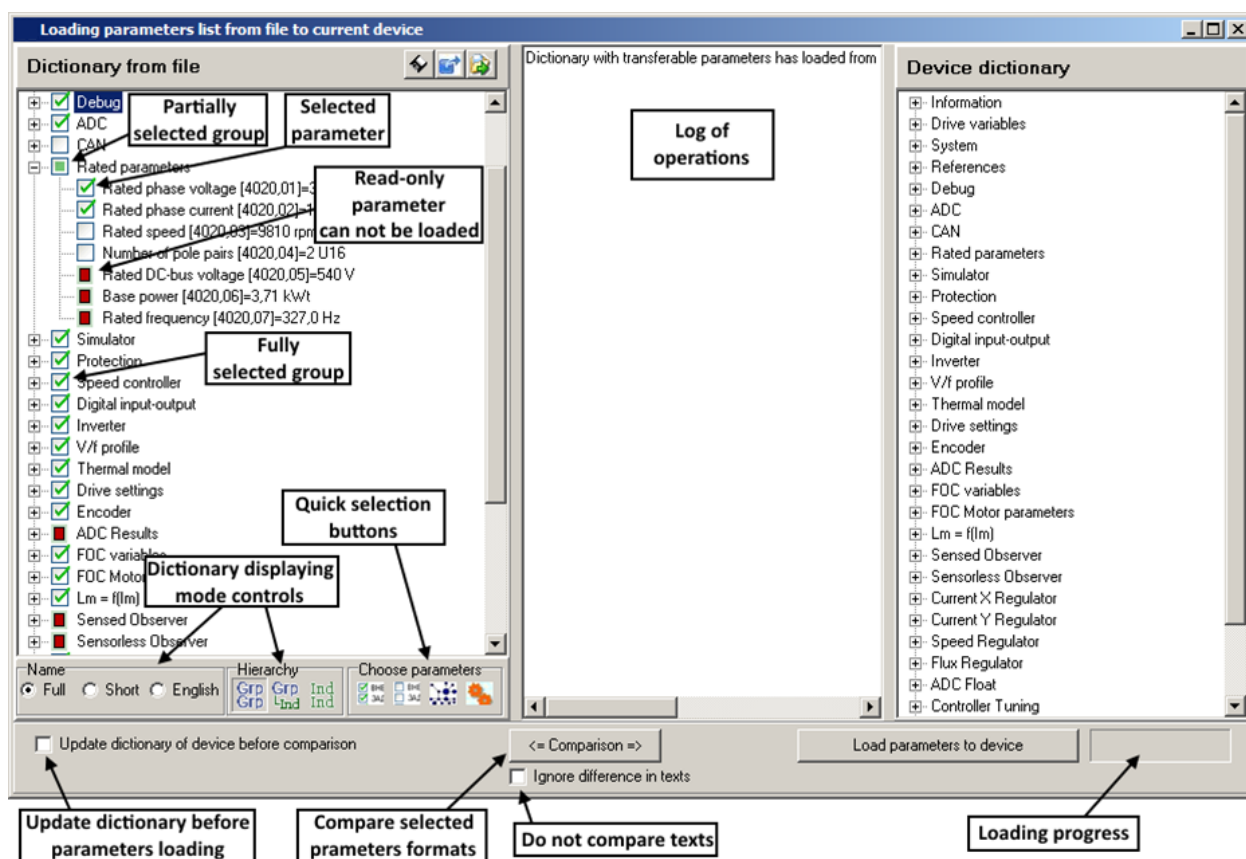

Fig. 6.8 Parameters loading window
3. To access the device parameters load window, select *Menu/Service/Parameters transfer/Load from file*. The appropriate window opens – see Fig. 6.8.
5. The dictionary loaded from the specified file is displayed in the left pane of the parameters loading window – see Fig. 6.8.
7. Next it is necessary to check the possibility of loading the selected parameters to the current device. Click *Comparison* button to do this. Pay attention to *Update dictionary of device before comparison* checkbox – see Fig. 6.8. If the box is checked, then clicking on the comparison button will update the device dictionary – structure, formats, texts, etc. If the box is unchecked, then comparison with the current dictionary will be performed.